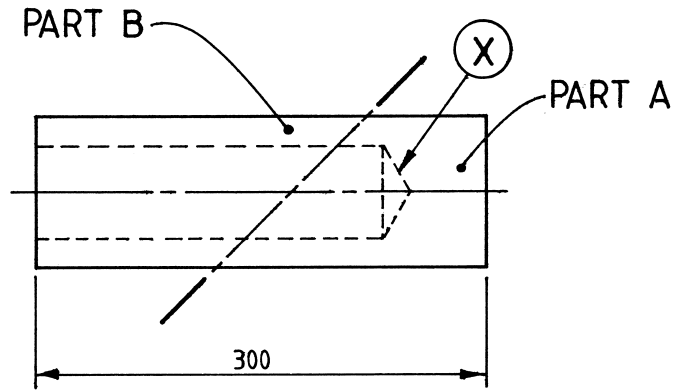

FIG. 1
The object shown in Figure 1 is drawn to scale and has its horizontal axis bisected by a section plane at 45° to the horizontal plane. The section plane divides the object into two parts (Part A and Part B).
- (c) (i) Determine the angle of projection used in Figure 1 on page 2.
- (d) Name the features labelled X, Y and Z in Figure 1 on page 2.